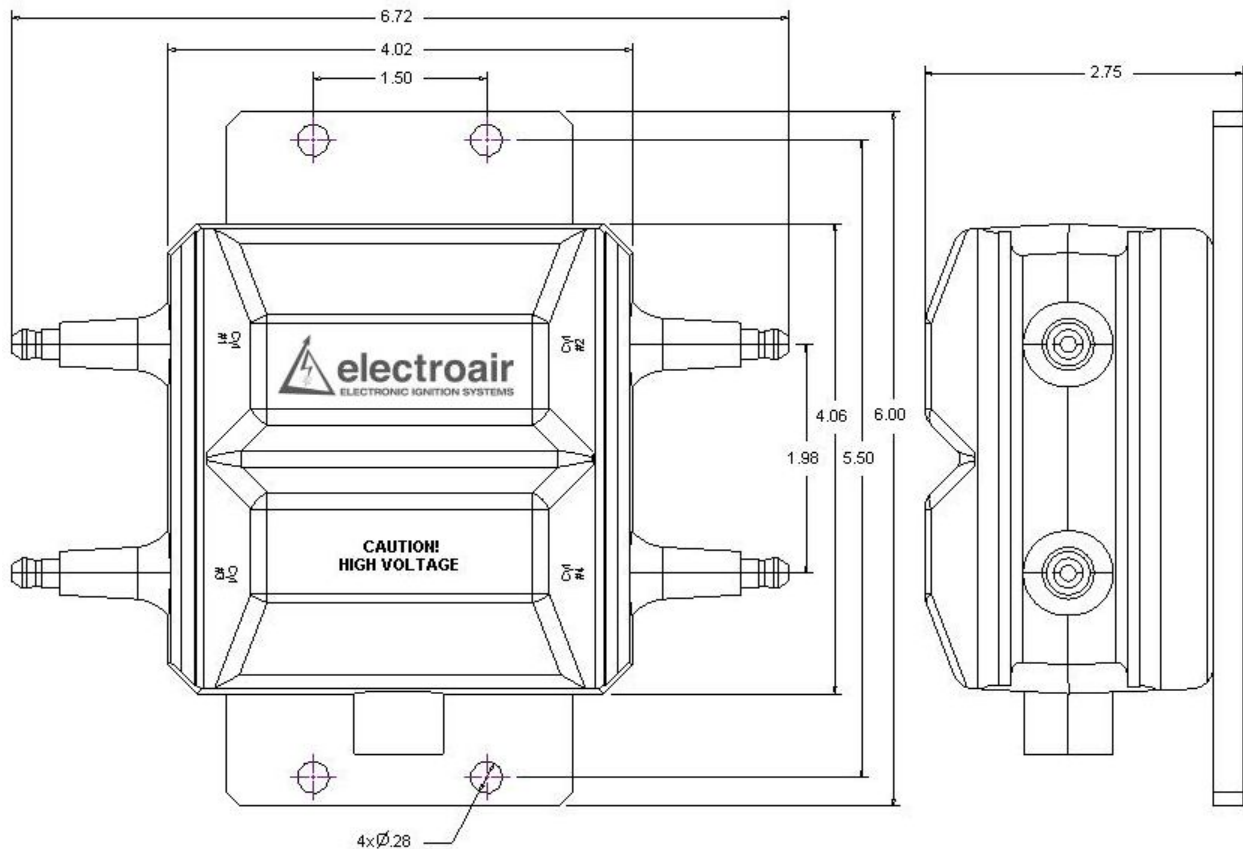

Figure 35: P/N EA-2000 Dimensions
- c. **EA-2000 Installation:** The coil pack is designed to be installed on the engine side of the firewall. Establish coil pack installation locations on both engine firewalls that will keep the spark plug wires as short as possible, keep clearance between the coil pack and other components, and not create maintenance difficulties in the future. Electroair strongly suggests that the Coil Packs be positioned so that the connector on the coil is facing straight down but can be positioned in any orientation if the installation requires alternate positioning. See Figure 35 for the Coil Pack Dimensions.